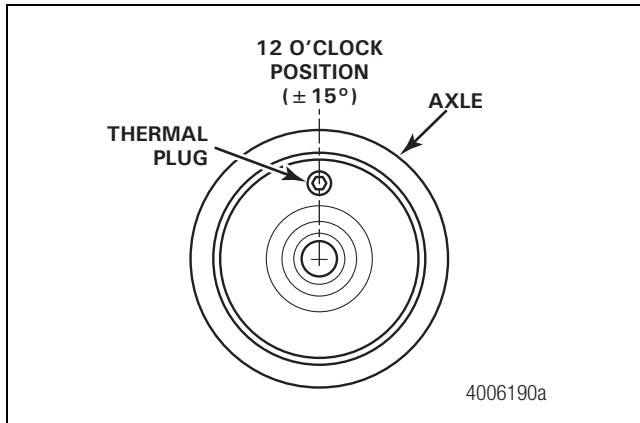

Figure 2.20
15. If you are installing an axle press plug fitted with a thermal plug for a ThermALERT system, install the axle press plug with the thermal plug positioned at 12 o'clock ($\pm 15^\circ$). Figure 2.20.
- **If the axle press plug is fitted with a thermal plug for a ThermALERT system:** Ensure that the thermal plug is located UP at the 12 o'clock ($\pm 15^\circ$) position when the axle is installed under the trailer. Figure 2.20.